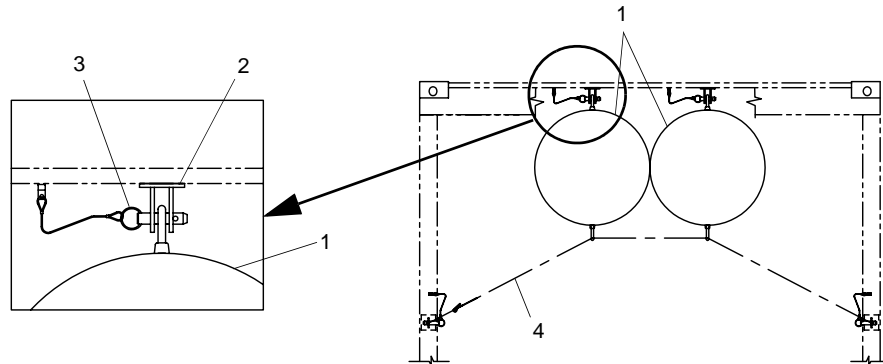

Figure 29. Anchor Buoy Stowage
26. Using assistant, position anchor buoy (figure 29, item 1) in container bracket (figure 29, item 2) and install pin (figure 29, item 3). Repeat this step for second anchor buoy (figure 29, item 1).
27. Pull anchor buoy tie down strap (figure 29, item 4) through loops on ends of anchor buoys (figure 29, item 1) and attach free end to container. Tighten strap (figure 29, item 4).